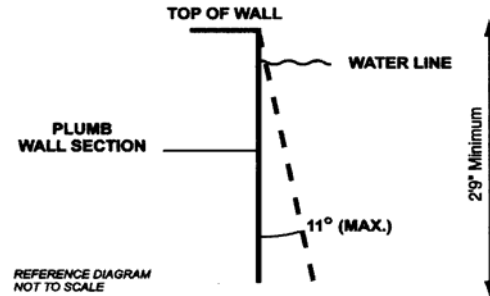
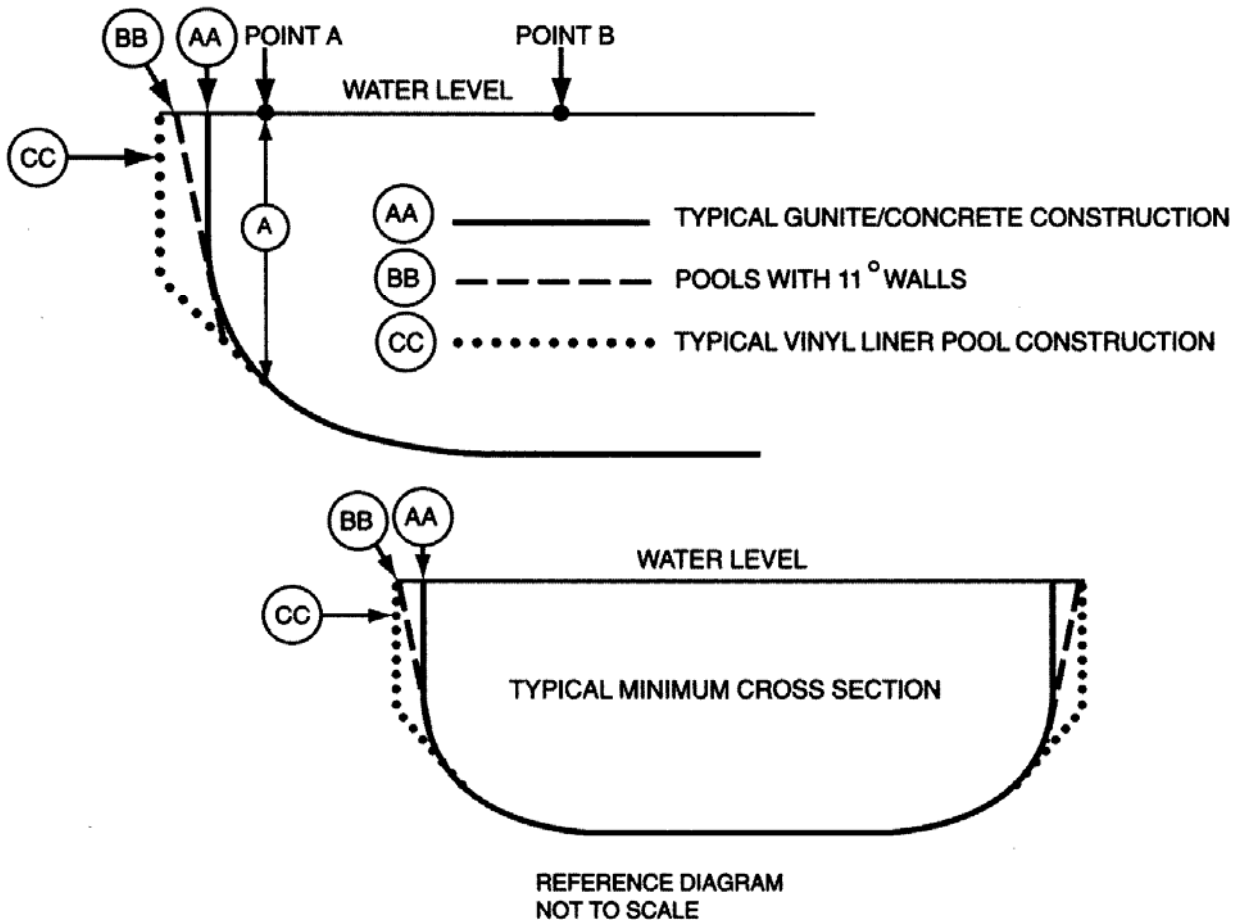

Figure 1- Maximum allowable wall slope
Figure 2- Typical pool design configurations
Refer to Fig. 1
BE SURE CONCRETE DECK SURROUNDING ANCHOR JIG COMPLIES WITH MINIMUM DIMENSIONS AS SHOWN IN FIG. 1 FOR POOL TYPE AND BOARD TO BE USED.
2. The Flyte-Deck II three-bolt jig should be set in accordance with the INSTALLATION CHART above and Fig. 1, with the one "RED" capped bolt closest to the pool. This will give the desired minimum overhang. Board must be placed at deep end of pool on centerline.
CAUTION: Before pouring concrete around jig, check the bolt pattern of jig to Fig. 2. It is possible that they have become misaligned through shipping and handling.
3. Make sure bolts project out of concrete 1-1/2" with ample concrete depth below jig. Refer to Fig. 1 for minimum deck thickness, width and length.
6. Place stand over jig bolts and secure according to Fig. 2. Tighten ANCHOR hex nuts. Tighten all MOUNTING and ANCHOR hex nuts according to the TIGHTENING SCHEDULE in Fig. 1.
7. With Flyte-Deck II Fiberglass Stand properly secured, install diving board to stand according to Fig. 2 and tighten MOUNTING hex nuts.
5.3.1 Walls in the shallow area and deep area of the pool shall not slope greater than 11° (1:5 slope ratio) to a transition point. The transition point shall not be less than 2 feet and 9 inches (83.8 cm) below the waterline. See figure 1.
5.3.2 As shown in figure 2, at the depths of (a) and (b), the walls are permitted to join the floor.
5.9.4 Typical pool design configurations. Vinyl liner, shotcrete, fiberglass and concrete constructions shall conform to, but are not limited to, the typical pool configurations shown in figure 2.